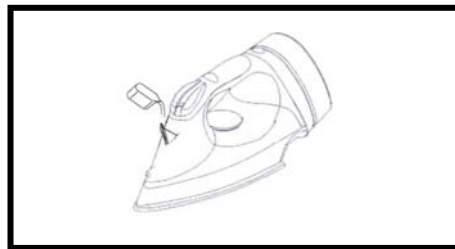

Figure 2
2. Holding the iron at a slight angle, pour water slowly into the water filling inlet. See figure 2. Fill tank to desired level or to the "MAX" water level marking using the water filling flask. (When the iron is upright, the transparent water tank allows you to gauge the amount of water.) DO NOT overfill the tank.